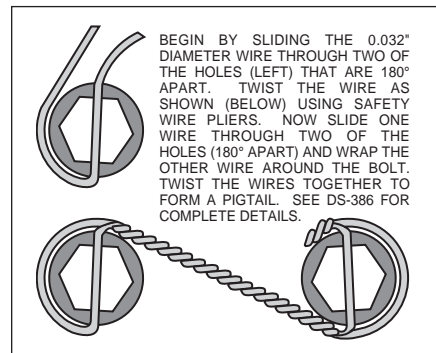

Figure 2. Safety Wire Diagram
- Safety wire bolts using standard 0.032 inch diameter stainless steel safety wire as shown in Figure 2. Please refer to Wilwood's data sheet DS-386 (available at www.wilwood.com/Pdf/DataSheets/ds386.pdf) for complete safety wire installation instructions.